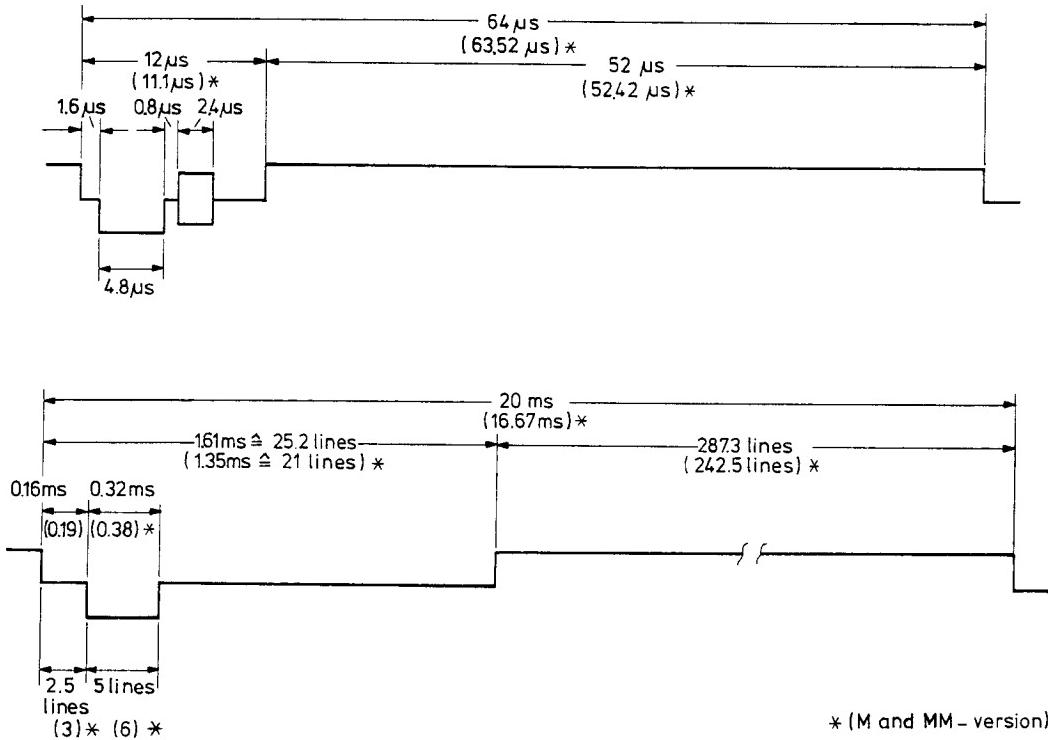

Fig. 4 Field and line raster signals
t_H is line time $\cong 64$ (or 63.56) μ s $\cong H$, see fig. 4
2.2.1. Raster signals, fig. 4.